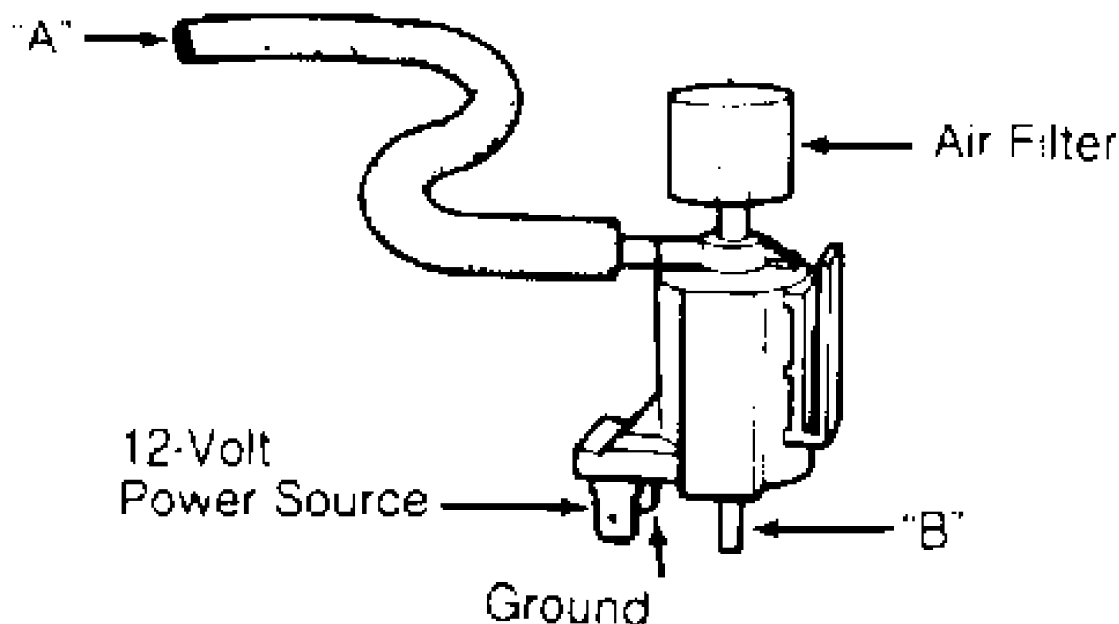

Fig. 5: Testing Pressure Regulator Control Solenoid
1) Unplug vacuum hose from pressure regulator control solenoid. Blow through solenoid from port "A". Ensure air flows through port "B". See Fig. 5.